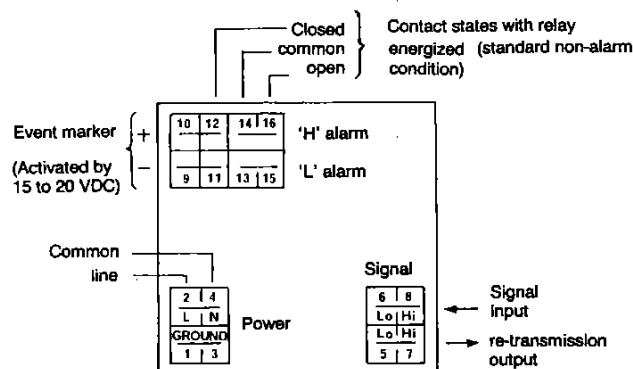

Figure 2.2 Model 300 rear terminal layout.
All electrical connections to the model 300 (Figure 2.2) are made at the rear of the case. Before making any connections, be sure that the supply voltage and input range shown on the rear label match the requirements of the installation.
- 4) Remove the insulating cover from the power terminals, figure 2.2, and connect wiring for the AC supply: